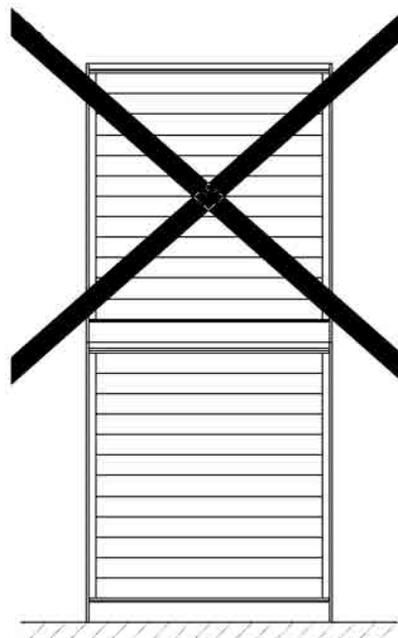

Fig. 6. Ban of panels piling at building site.
- To avoid indentations and prints on the panels, it is forbidden to pile panel packages at the construction site – see fig. 6.